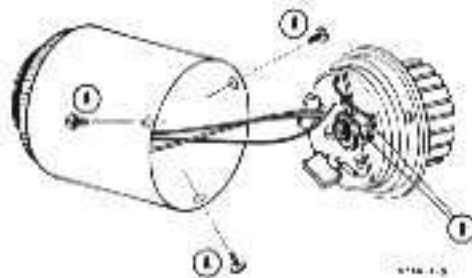

Figure 7. Thermistor Compensation
60. Refer to Figure 7, and proceed as follows:
- Remove the three screws (A).